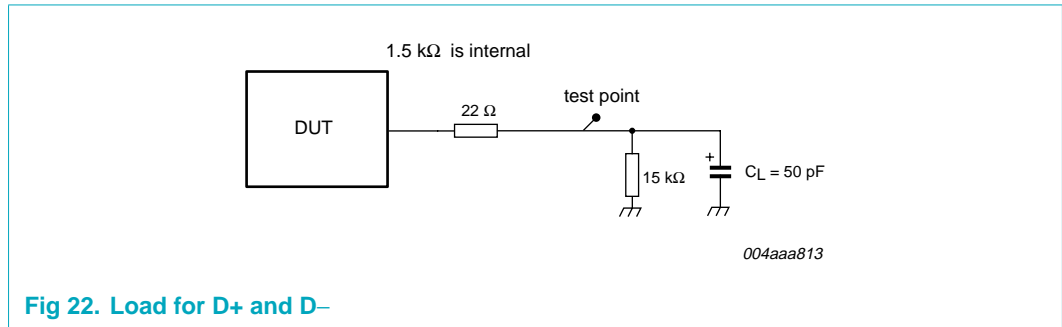

Fig 22. Load for D+ and D-
- [1] Test circuit, see Figure 22.
The dynamic characteristics of the analog I/O ports (D+ and D-) as listed in Table 16, were determined using the circuit shown in Figure 22.